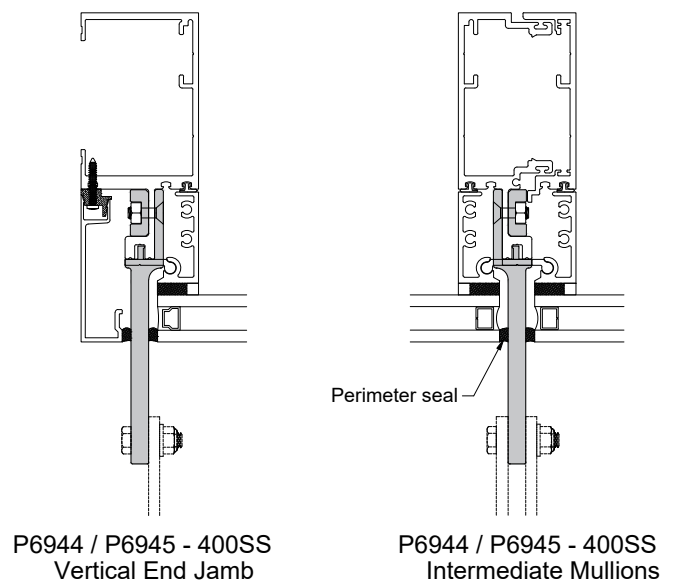

FIG. 17.2
- 5) Once perimeter closure E004CA has been installed, install perimeter glass seals as instructed, sealing around sun shade bracket penetrations. Fig. 17.2.